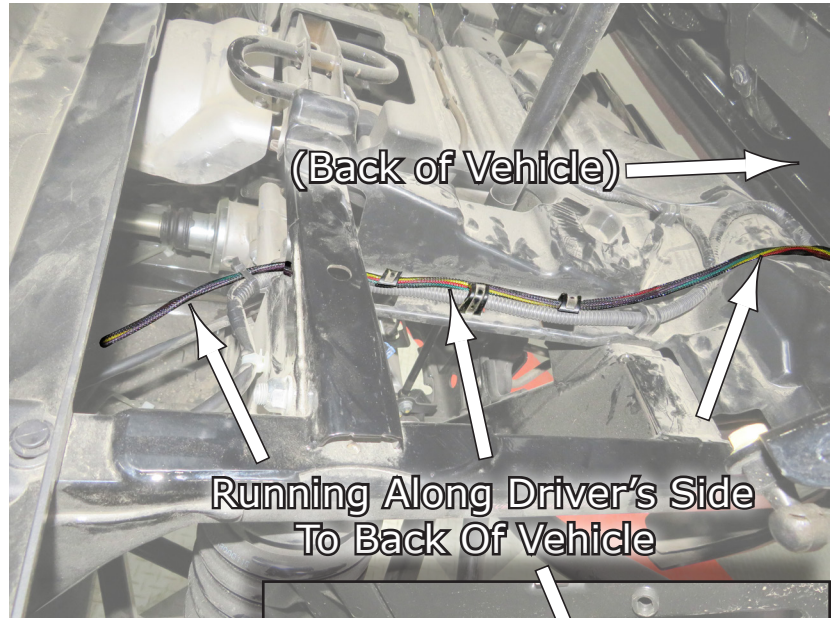

Fig.15
16. **Fig.15** shows the harness continuing to the back of the vehicle along the Driver's Side. Be sure to Zip-Tie the harness secure after installing and testing your lights.
17. **Fig.15** also shows the harness exiting out the back side of the tailgate.